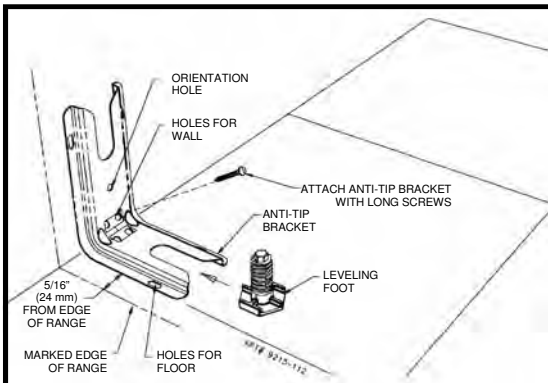

FIGURE 3
STEP 1 - Locating the Bracket (See Figure 3)
- B. Place the BRACKET 15/16" (24 mm) from the marked "EDGE" toward center of opening and against the back wall as shown in figure 3, with orientation hole against wall.
- C. Use the bracket as a template and mark the required holes, as shown in figure 3 for the type of construction you will be using.
1. Floor: Locate the center of the two holes identified in figure 3 as "HOLES FOR FLOOR". Drill a 1/8" (3 mm) pilot hole in the center of each hole (a nail or awl may be used if a drill is not available). Secure the ANTI-TIP bracket to the floor with the two screws provided. Proceed to STEP 3.
2. Wall: Locate the center of the two holes identified in figure 3 as "HOLES FOR WALL". Drill an angled
Suitable screws for concrete construction can be obtained at a hardware store. Drill the required size hole for the screws obtained into the concrete at the center of the holes identified in figure 3 as "HOLES FOR FLOOR". Secure the ANTI-TIP bracket to the floor. Proceed to STEP 3.